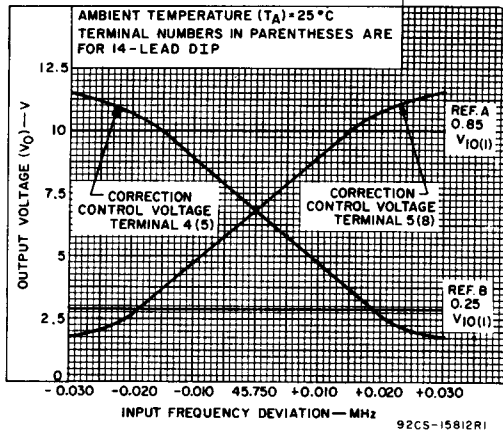
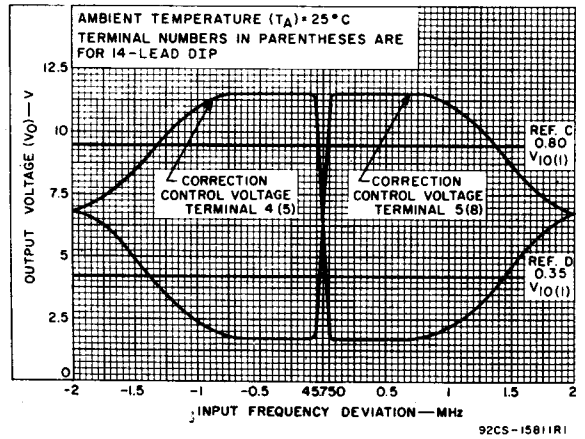

Fig.6 — Typical narrow-band dynamic control voltage characteristics.
Fig.7 — Typical wide-band dynamic control voltage characteristics.
Figures 5, 6, and 7 show the control voltages generated at terminals 4(5) and 5(8) of the Integrated Circuit as a function of the frequency deviation from the nominal center frequency. Figure 6 shows the region within 30 kHz of the center frequency while Figure 7 covers the entire bandwidth of the system. The horizontal reference lines on the figures are generated by a voltage divider connected between the power